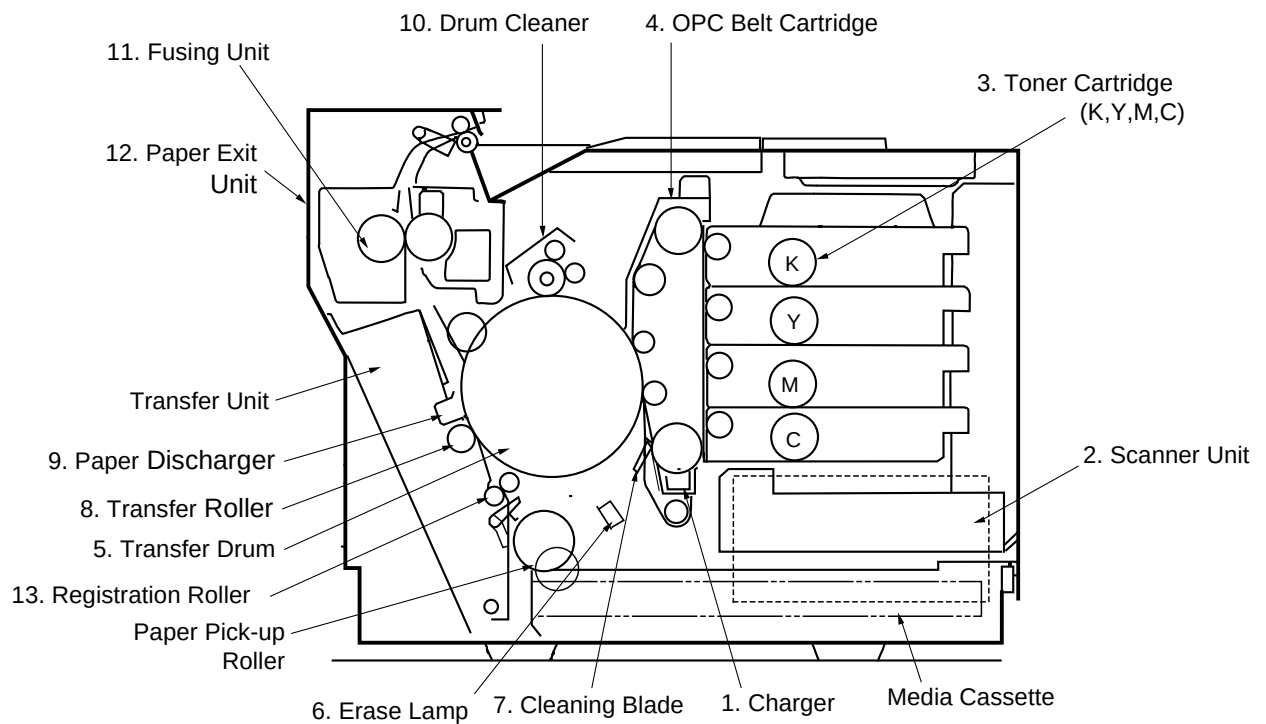
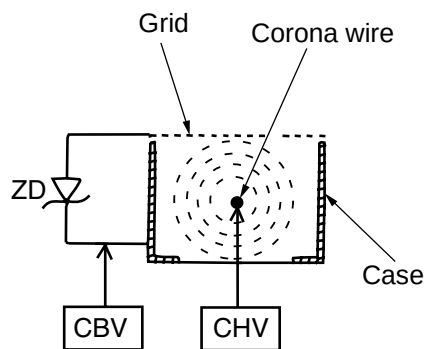

Fig.4-8
Fig.4-11
- (1) Structure of the Charger Unit (Refer to Fig.4-8 and Fig.4-11)
- i) The charger unit is located as shown in Fig.4-8.
(1) Structure of Scanner Unit
- i) The scanner unit is located as shown in Fig.4-8.
- (1) Structure of the Toner Cartridge (Refer to Fig.4-8 & 4.14.)
- i) The toner cartridge is located as shown in Fig.4-8.
- (2) Process of Developing (Refer to Fig.4-8, 4-14, 4-15, and 4-16)
- (1) Structure of the Transfer Drum (Refer to Fig.4-8.)
- i) The drum is located as shown in Fig.4-8.
(1) Structure of Erase Lamp
- i) The erase lamp is located as shown in Fig.4-8.